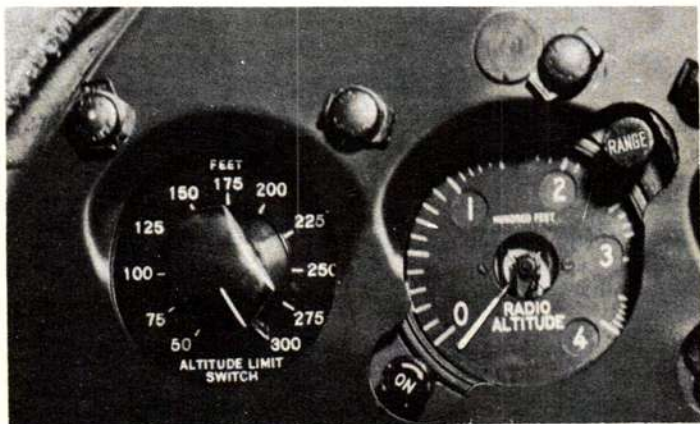

Figure 5-1-5.
**The radio altimeter.** The radio altimeter (fig 5-1-5) is an instrument which determines the absolute altitude of the aircraft above the ground.